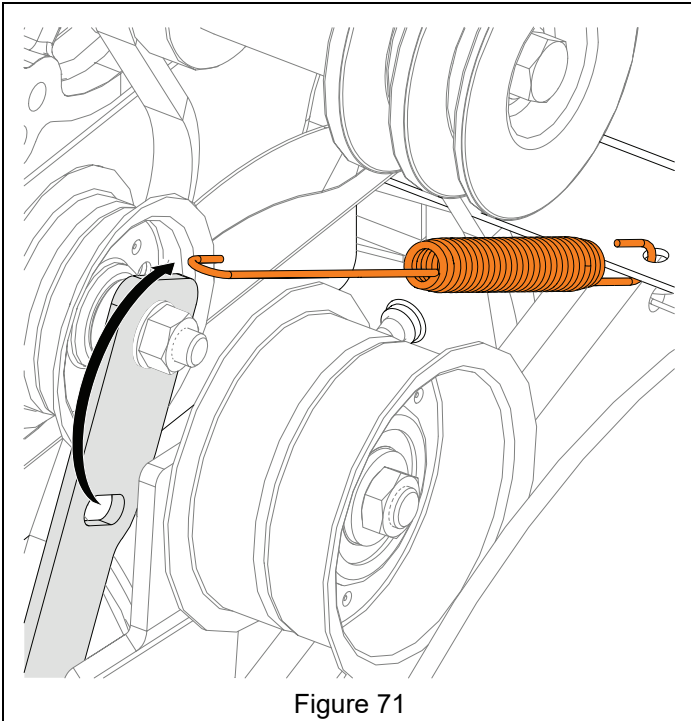

Figure 71
6. Disconnect idler spring from traction drive idler arm and remove spring. See Figure 71.